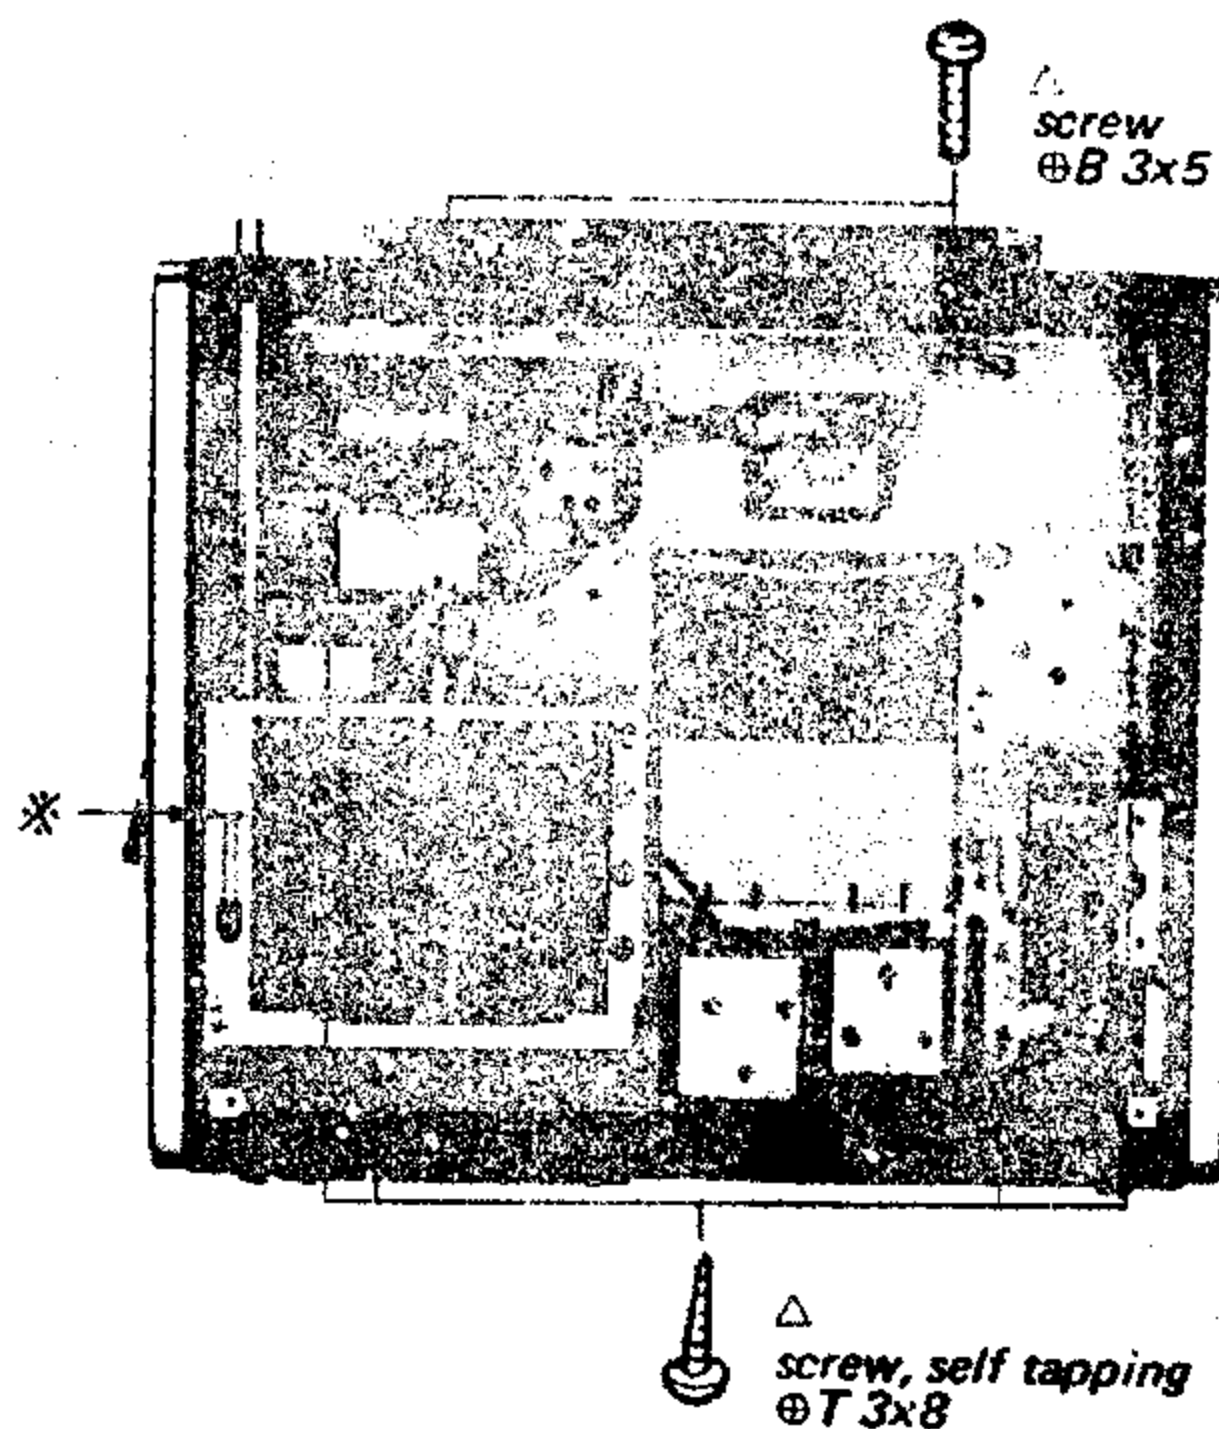

Fig. 2-3
4. Remove the six screws marked  $\Delta$  which fasten the front panel to the chassis in Fig. 2-3.